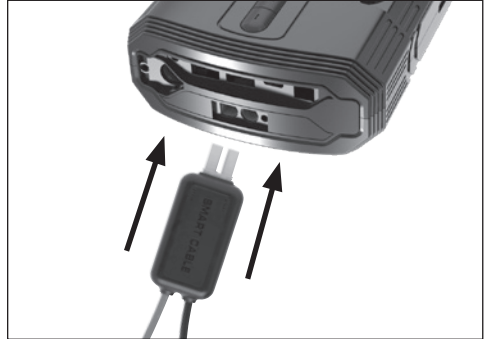
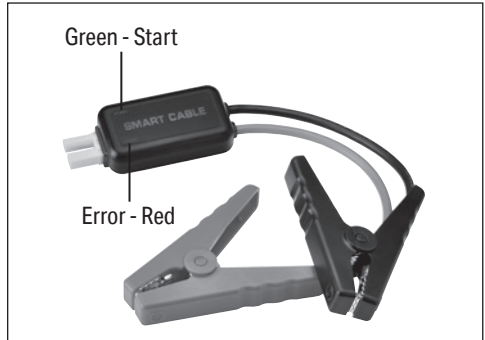

Fig. 2
Fig. 3
## 7.1 Jump Starting the Vehicle - Fig. 2 - Fig. 3.
- Before using the Jump Starter press the power button (2) to check that the battery power (17) is above 80%.
1. Insert the connector (B) end of the clamps into the jump starter port (10). Note: the connector is designed to fit only one way round (Fig. 2).
3. Press the '**POWER**' button (2) to turn on the jump starter (Fig. 2).